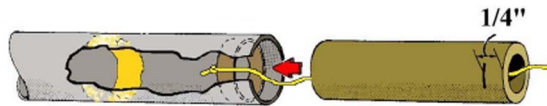

Figure 2
- **Step 3** Mark an expended 18mm motor casing at 1/4" from one end. Apply a generous bead of glue, about 1/4" wide, to the inside of the body tube about 2 1/4" from the bottom end of the tube. As shown in Figure 2, with the knot to the front side of the ring, pull the Kevlar thread down through the center of the casing. Use the casing as a depth gage and push the TB-7 ring inside the body tube, up through the glue, until the mark on the casing is even with the edge of the tube. Remove the casing from the tube, but do not push the Kevlar thread back into the tube at this time. Allow this to completely dry.